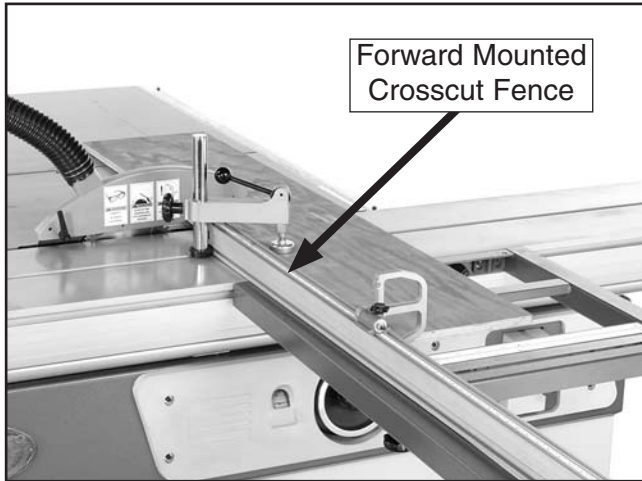

Figure 57. Crosscutting full size panel.
The Model G0588/G0591 can crosscut full size panels with the fence in the forward or rear position, although it is easier to load full size panels with the crosscut fence mounted in the forward position (see **Figure 57**).
4. Load the workpiece onto the table saw. The set up should look similar to **Figure 57**.